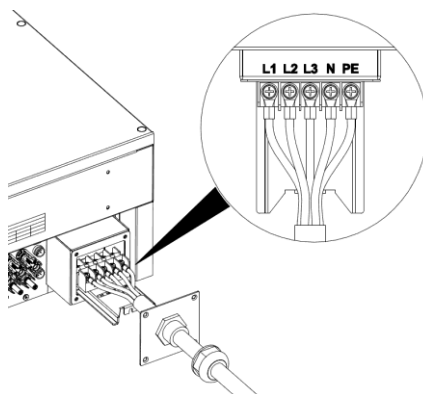

Figure 4.21 Connection of wire and connector
(6) The connection of AC cable and the connector should be correct and the screws are tightened. The tightening torque is $2\text{N}\cdot\text{m}$, as shown in Figure 4.21.